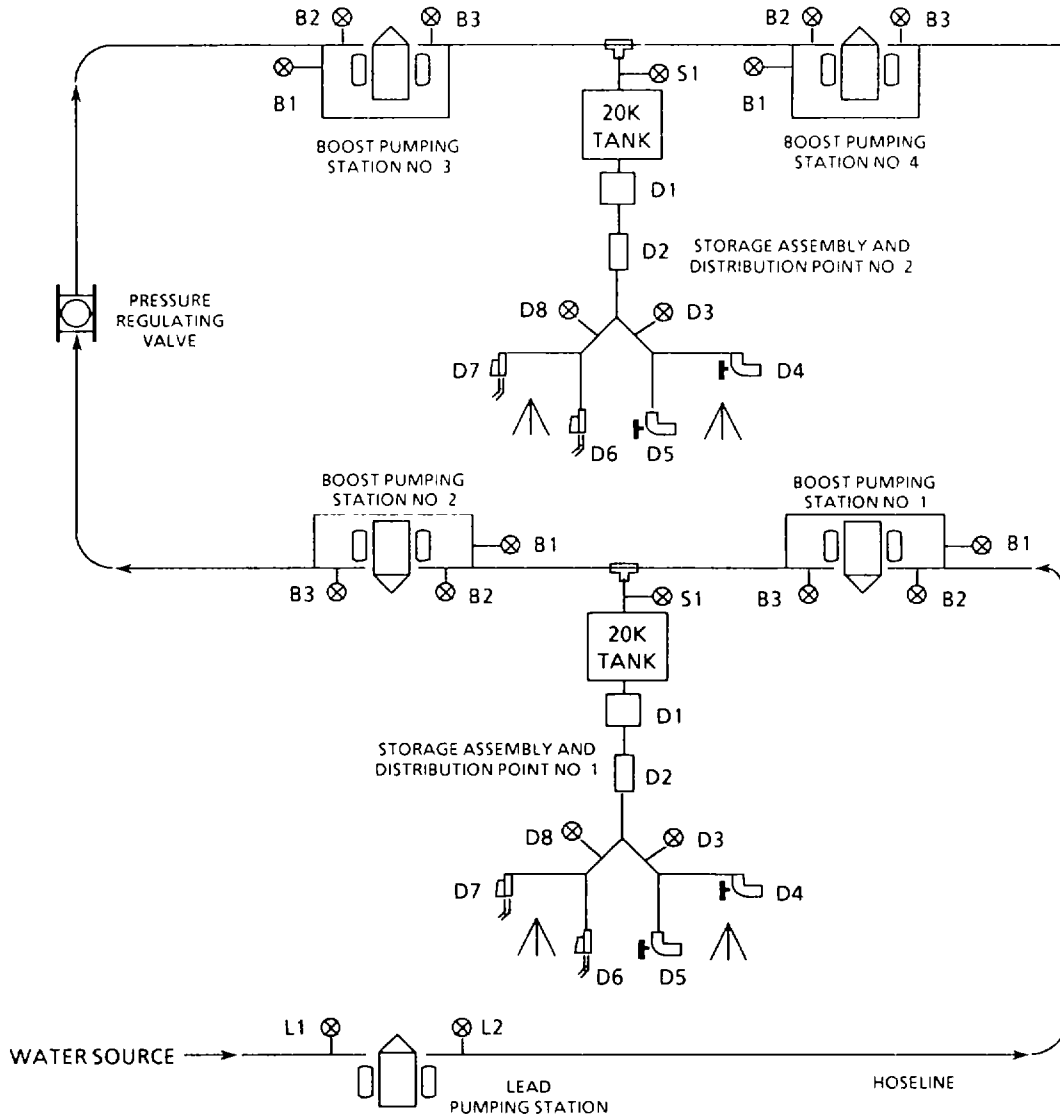

Figure 2-30. Water System Control Valves.
- b. Fill Hoseline (Packing). Refer to figure 2-30. Before system startup, the hoseline must be filled with water to ensure priming of 600 gpm pumps and prevent damage to hoses from high winds. Filling (packing) of the hoseline is required when starting the system for the first time and after replacing or repairing a segment of the hoseline.
- c. Startup Refer to figure 2-30. Operation of the TWDS requires a minimum of seven operators. One operator is required for each pump station and one for each storage and distribution point. Operators must be in communication at all times.
- (1) If pressure regulating valve is installed, set three bypass control valve handles to open position (para 2-6).
d Shutdown. Refer to figure 2-30/